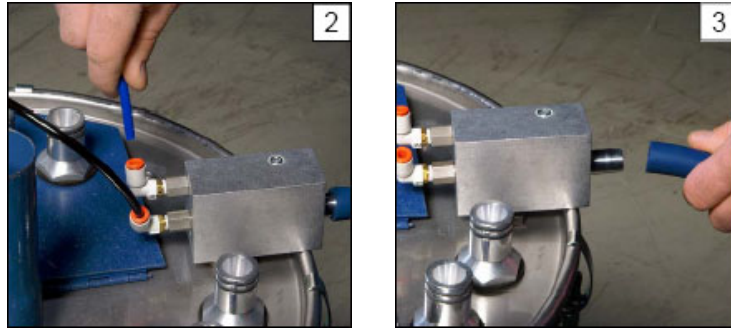

Fig. 5-11
1. Detach the air hoses from the pump (Fig. 5-11).
2. Remove the powder hose (Fig. 5-11).